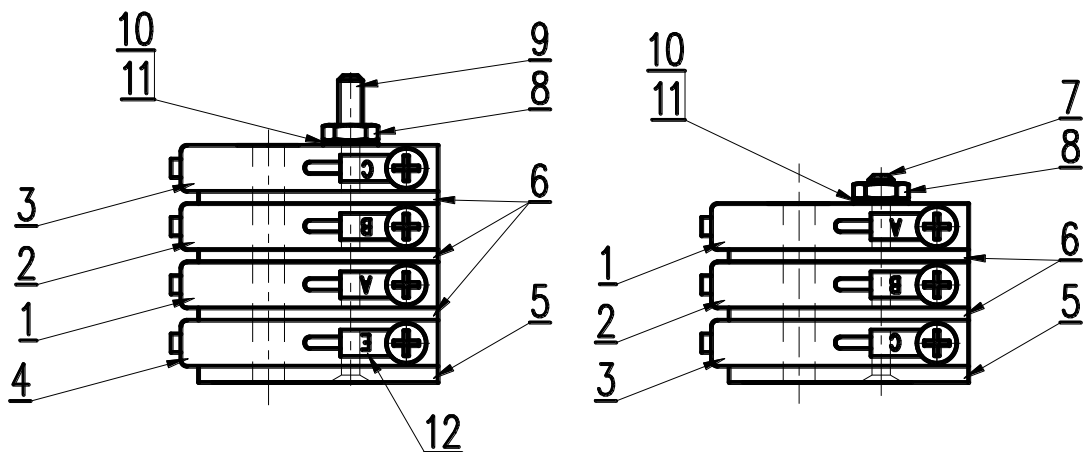

Fig.17 Brush assembly 4-races and/or 3-races
D. Remount Brush assembly as shown on Fig.17.